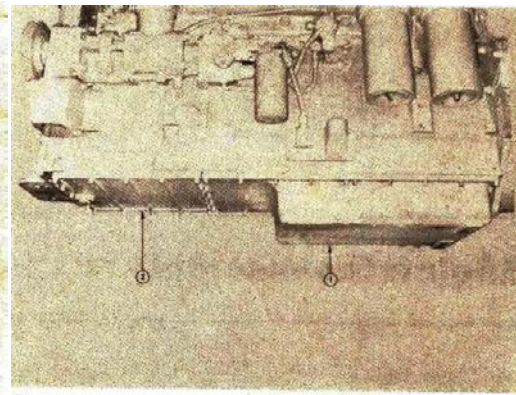

Fig. 0-3. Lubricating oil pan
2. Remove the drain plugs in oil pan sump, (1, Fig. 0-3) and pan adapter cover plate (2).